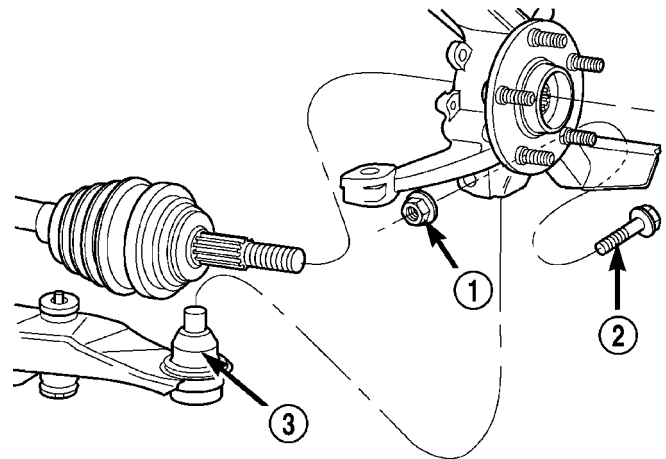

Fig. 20 Driveshaft Installation Into Hub And Steering Knuckle
(6) Slide halfshaft back into front hub. Install steering knuckle onto the ball joint stud (Fig. 20).
(7) Install a **NEW** steering knuckle to ball joint stud bolt and nut (Fig. 20). Tighten the nut and bolt to 95 N·m (70 ft. lbs.).